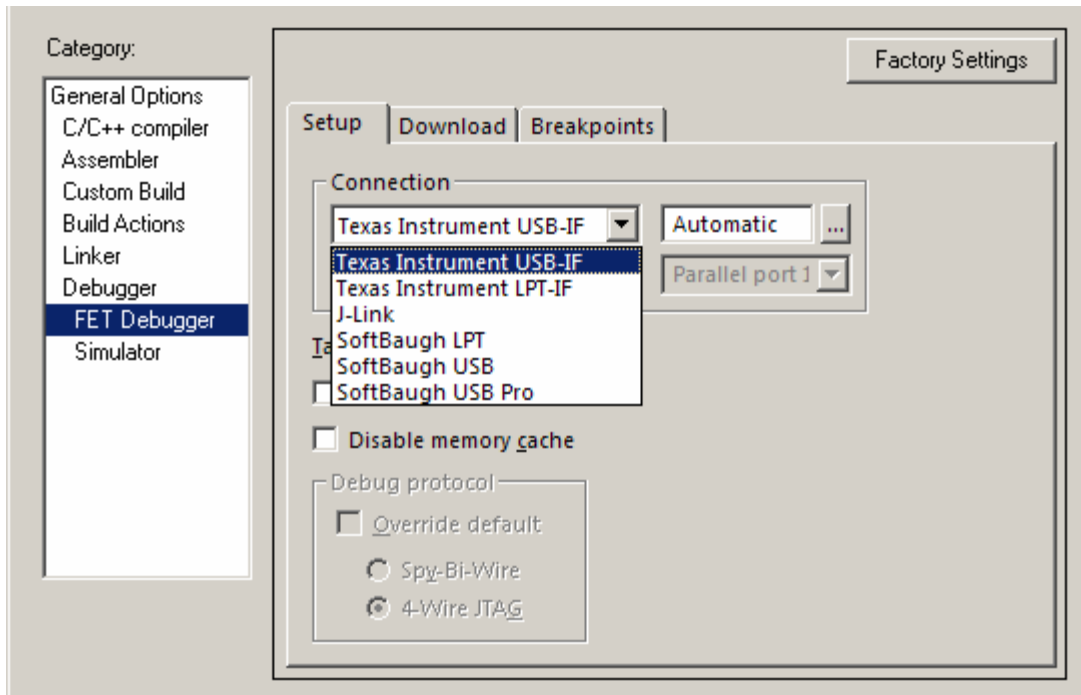

Figure A-3: Selection of the USB interface
5. Then proceed to the **FET Debugger** option and choose the Texas Instrument USB-IF as shown in Figure A-3. The default setting of **Automatic** needs no change.